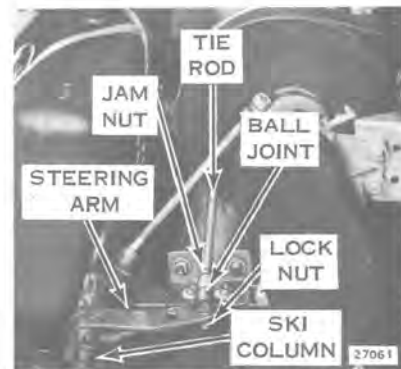
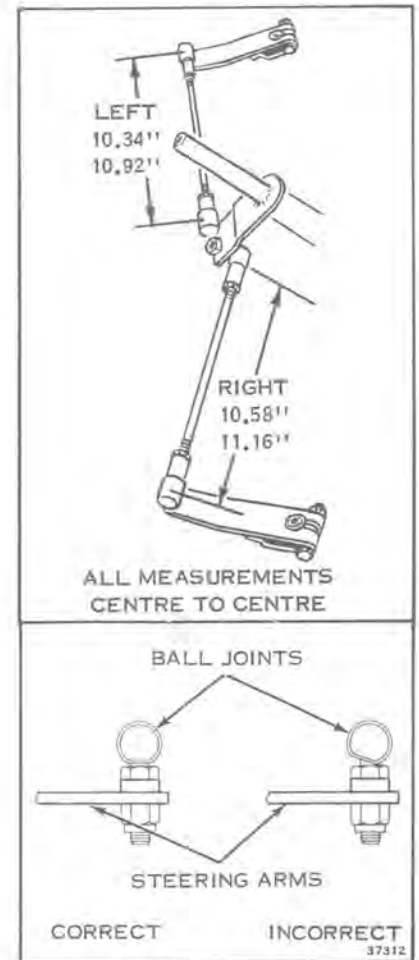

Figure 11-4
Figure 11-5
4. Remove steering arms from ski column. See Figure 11-4.
- If alignment is necessary, loosen the outer jam nuts, see Figure 11-4. Do not attempt to loosen these nuts without first holding the ball joint. Next remove lock nut from ball joint. Turn ball joint clockwise to toe skis out or counterclockwise to toe skis in. Hold the ball joint with a wrench to prevent turning (see Figure 11-5) and tighten jam nuts when skis are parallel. Replace ball joint lock nut.
- In order to verify your ski alignment use the measurements shown in Figure 11-5.